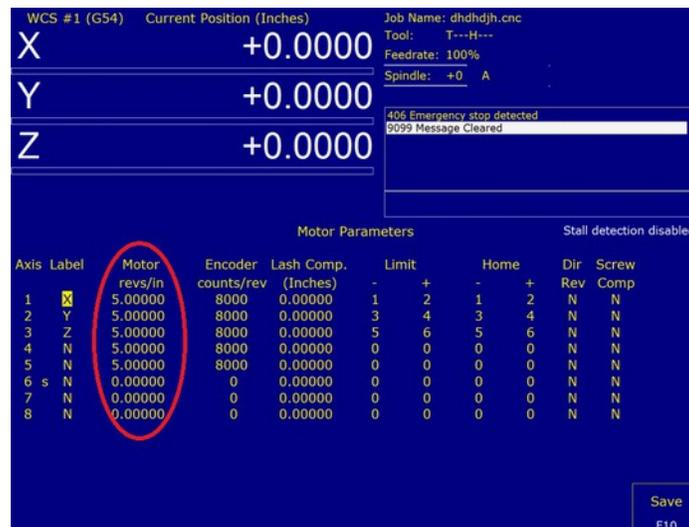

Figure 6.6.2
- Imperial Units** To calculate the value to be entered in the revs/inch field. Divide the distance moved (DRO value) by the distance that the axis actually moved (measuring tape). Multiply this result by the current value in the rev/inch field as circled in Figure 6.6.2.. This the new value that you will enter in the revs/inch field. If the axis traveled 6", but the command was 7.5" $7.5/6 = 1.25$, if the current revs/inch is $5.000 * 1.25 = 6.25$ is the new value to enter in the revs/inch field.
- Metric Units** To calculate the value to be entered in the mm's/revs field. Divide the distance that the axis actually moved (measuring tape) by the distance commanded (DRO value). Multiply this result by the current value in the mm's/rev field as circled in Figure 6.6.2. This the new value that you will enter in the mm's/rev field. If the axis traveled 150mm", but the command was 175mm, $150/175 = .85714$, if the current mm's/rev is $5.08 * .85714 = 4.35428$ is the new value to enter in the mm's/rev field.